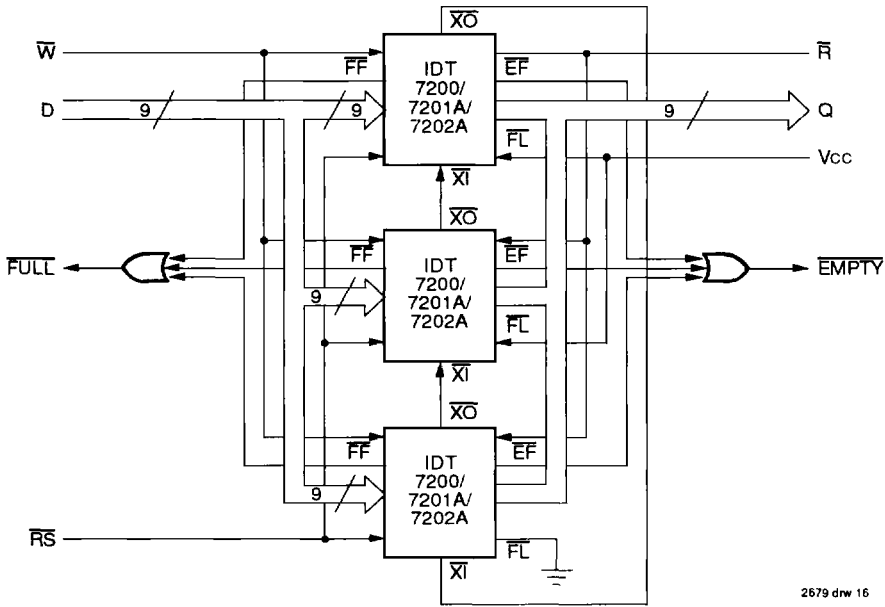

Figure 14. Block Diagram of 768 x 9/1536 x 9/3072 x 9 FIFO Memory (Depth Expansion)
The IDT7200/7201A/7202A can easily be adapted to applications when the requirements are for greater than 256/512/1024 words. Figure 14 demonstrates Depth Expansion using three IDT7200/7201A/7202As. Any depth can be attained by adding additional IDT7200/7201A/7202As. The IDT7200/7201A/7202A operates in the Depth Expansion mode when the following conditions are met:
3. The Expansion Out (\overline{XO}) pin of each device must be tied to the Expansion In (\overline{XI}) pin of the next device. See Figure 14.
4. External logic is needed to generate a composite Full Flag (\overline{FF}) and Empty Flag (\overline{EF}). This requires the ORing of all \overline{EF} s and ORing of all \overline{FF} s (i.e. all must be set to generate the correct composite \overline{FF} or \overline{EF}). See Figure 14.
1. XI is connected to XI of previous device. See Figure 14. RS = Reset Input, FL/RT = First Load/Retransmit, EF = Empty Flag Output, FF = Flag Full Output, XI = Expansion Input, HF = Half-Full Flag Output
1. For depth expansion block see section on Depth Expansion and Figure 14.